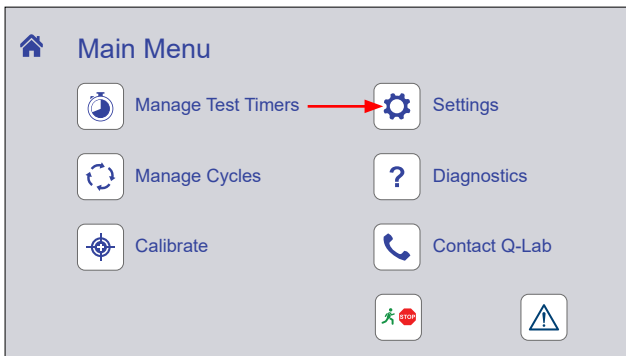

Figure 8.8a: Touch the Settings icon on the Main Menu screen to display settings controls.
- On the Menu Display touch the Settings icon (Figure 8.8a) to display the Settings screen.